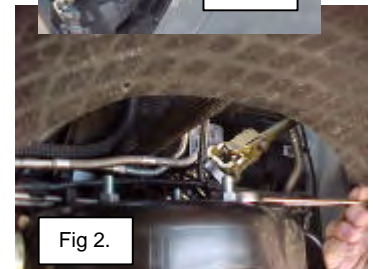

Fig 2.
5. Remove upper strut nuts on the strut tower (3) on each side of vehicle that holds strut assembly to the strut tower (Fig. 2).